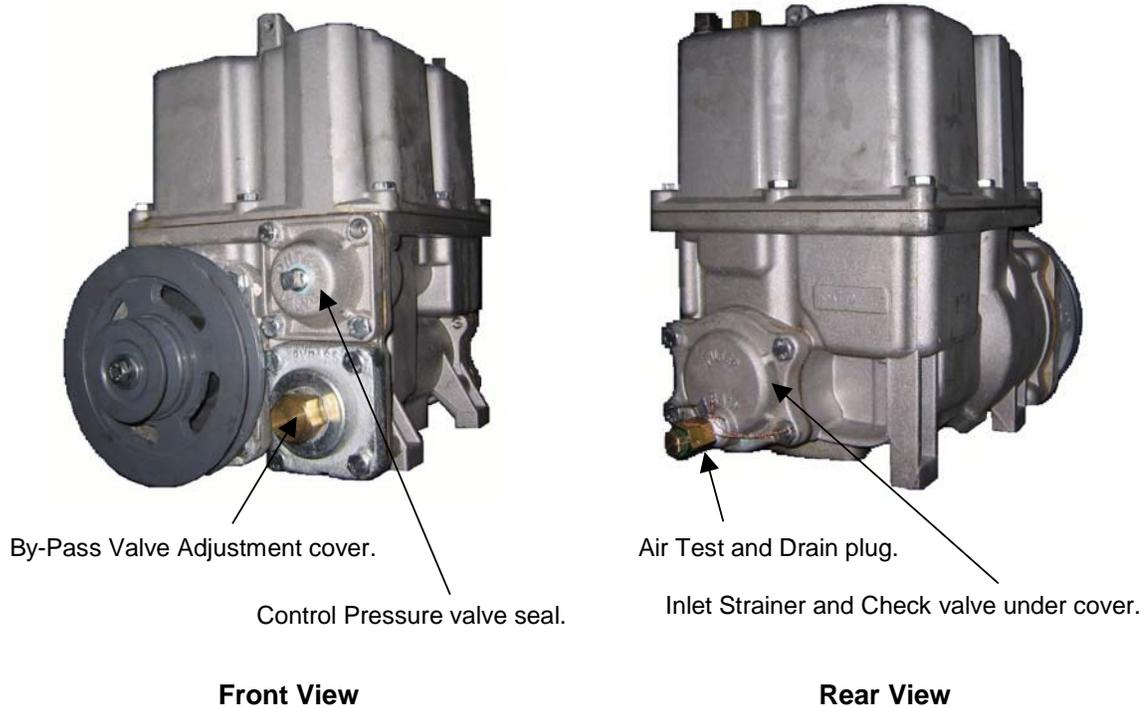

Figure 38 – GPU-90 General View Front & Rear
1. OUTLET pressure may be checked with a gauge at the Control Pressure seal plug. Refer Figure 38.
2. INLET Vacuum may be checked with a gauge at the Air Test adapter plug. Refer Figure 38.